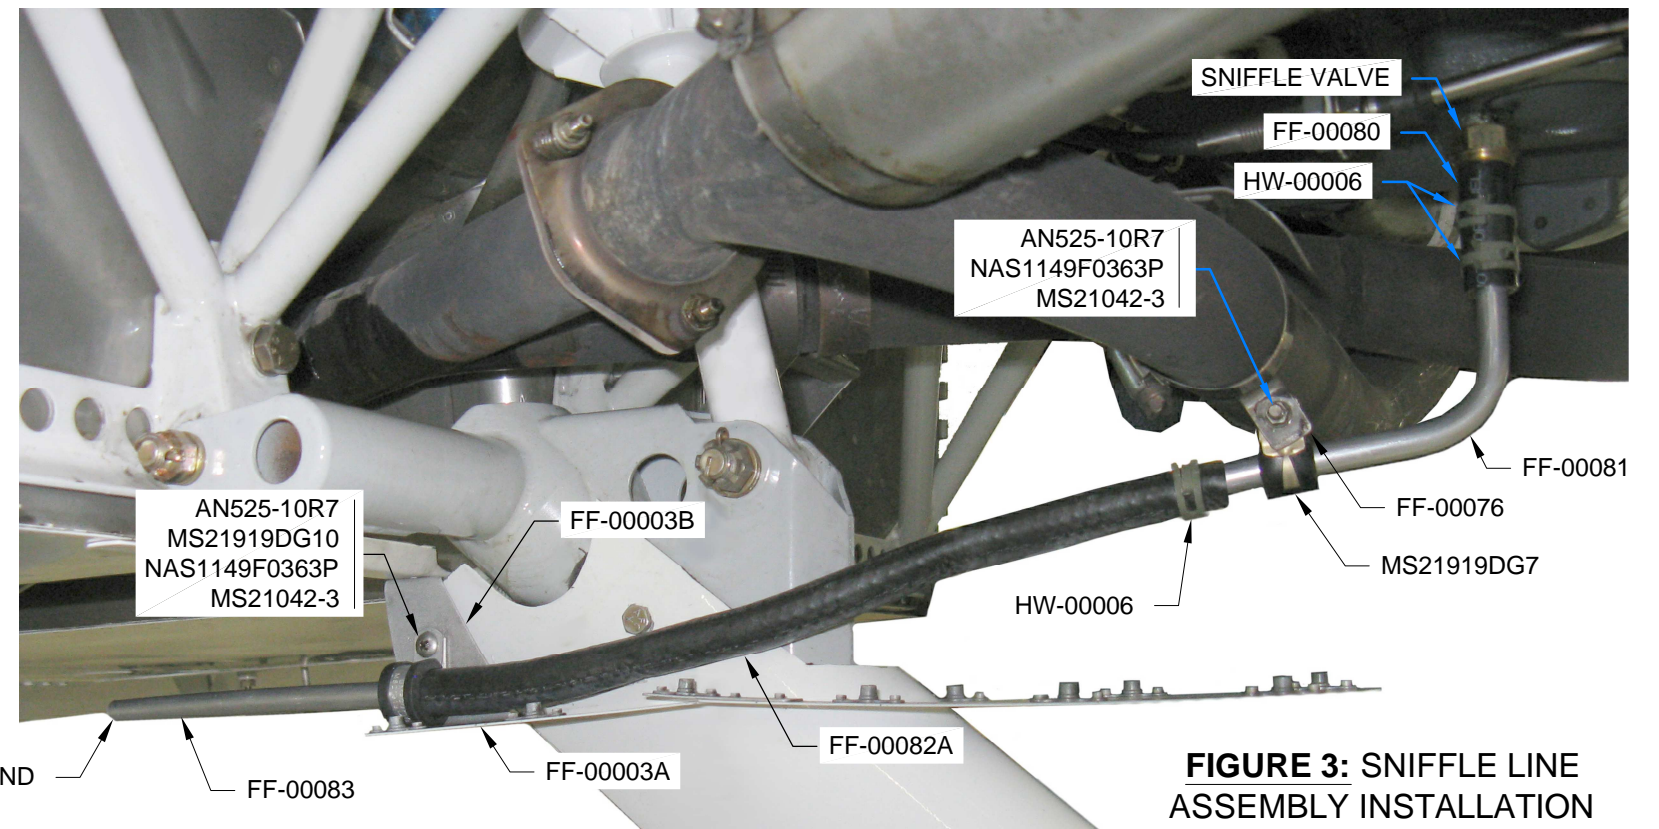

FIGURE 3: SNIFFLE LINE ASSEMBLY INSTALLATION (TRI-GEAR ONLY)
Step 4: Install the Sniffle Line Assembly as shown in Figure 2 or Figure 3. Gently bend the FF-00081 Sniffle Line as required.